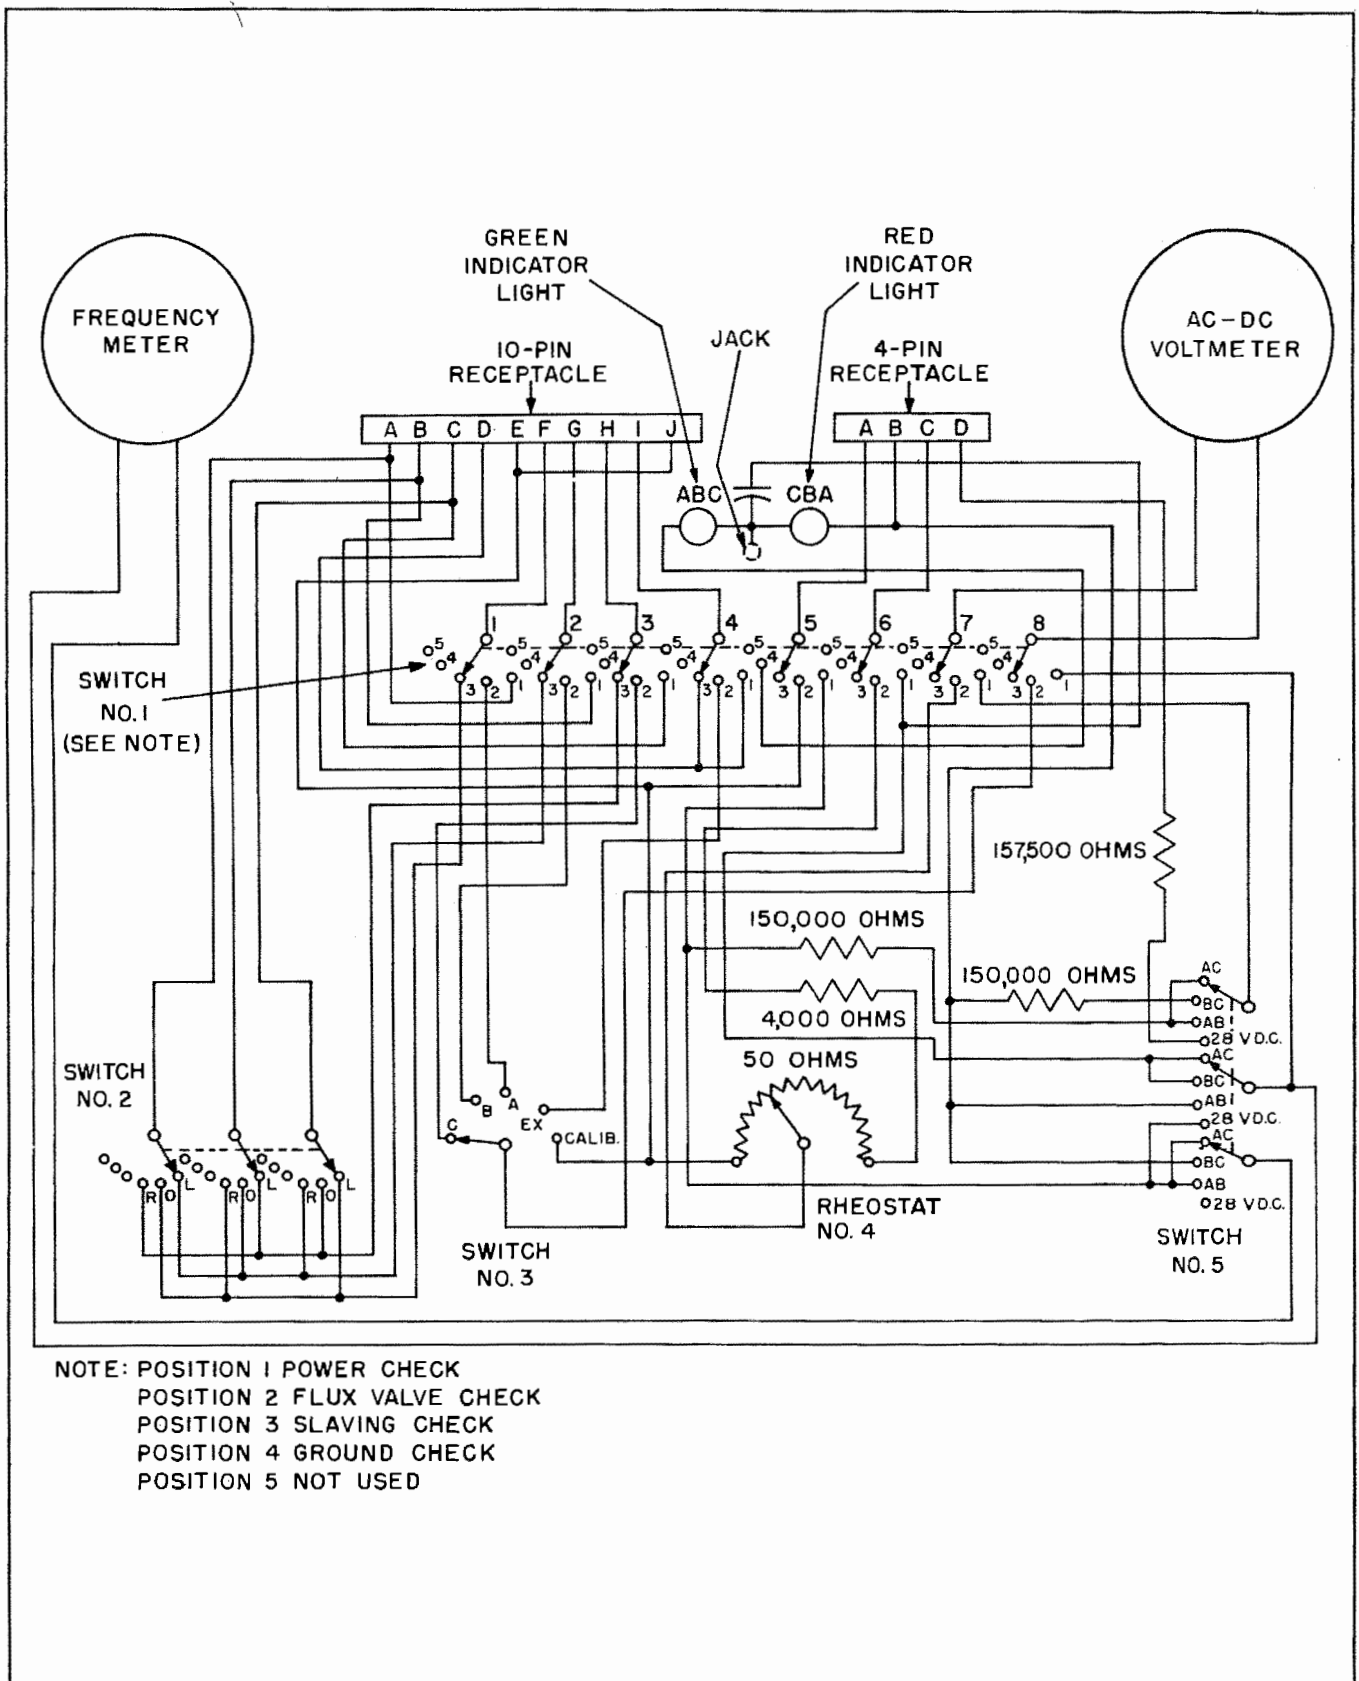

Figure 47Q AF P-1 Tester, Wiring Diagram
(1) Connect the power lead (47B7487) to the four-pin receptacle of the Tester. Connect the receptacle end of the power lead to the four-pin plug of lead 47B7495. Disconnect the three-pin plug from the back of the Indicator and connect it to the receptacle of lead 47B7495.
(2) Turn Switch No. 1 of the Tester to the "POWER CHECK" position, turn Switch No. 5 to the "28V DC" position, and then turn on the power.
(3) After the rotor of the Indicator has come up to speed, read the voltmeter.
(4) Rotate Switch No. 5 to the three phases of the voltmeter and read the voltage on each phase. During this test the pointer of the voltmeter should read 115 ± 5 volts. The frequency of the 115-volt current should be 400 ± 16 cycles as indicated by the green light. If the red light comes on, the phase rotation is wrong and the power lead should be changed so that proper phasing is obtained.
(5) The wiring diagram of the AF P-1 Tester is given in figure 47Q.